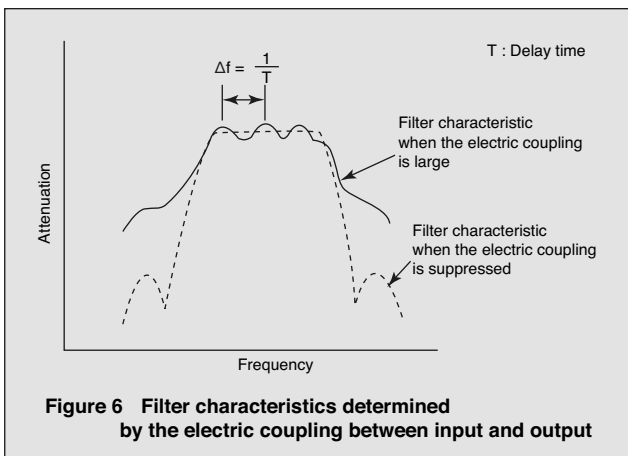

Figure 6 Filter characteristics determined by the electric coupling between input and output
4. As shown in Figure 6, a ripple occurs in the amplitude and group delay time characteristics because of the electric coupling between input and output. When using a SAW filter, determine shield grounding conditions so that the electric coupling between input and output is minimal. Use the following equation to calculate the ripple period: $\Delta f = 1/T$.